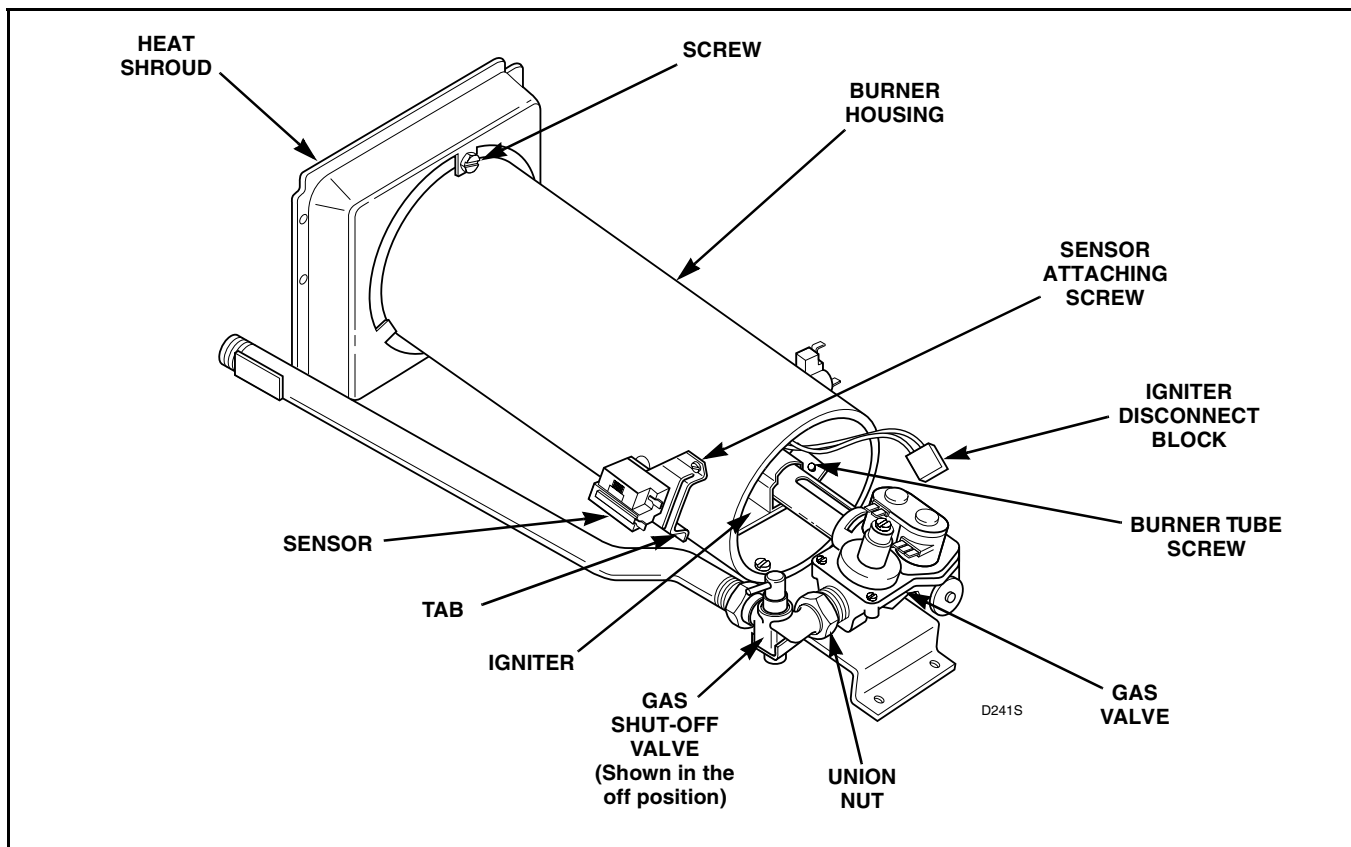
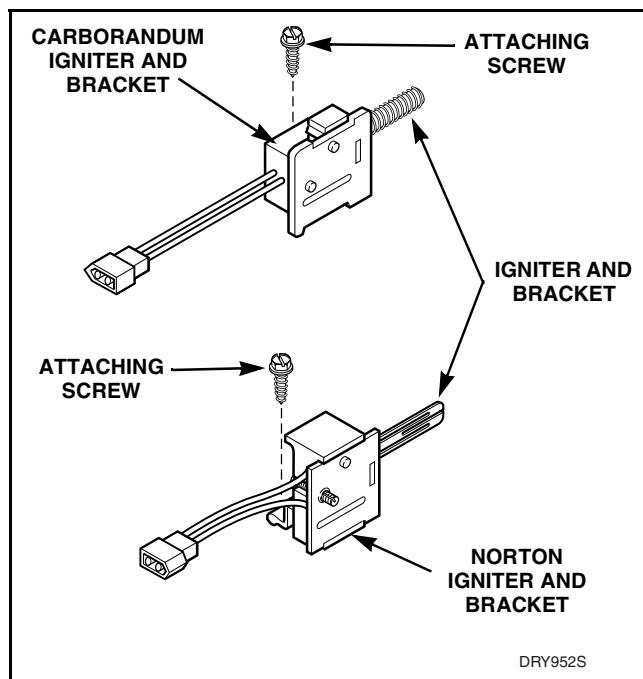

Figure 19
Figure 22
- (4) Close gas shut-off valve, disconnect igniter wires at disconnect blocks, sensor wires from sensor terminals, and wires from gas valve coils at the quick disconnect blocks. Refer to *Figure 19*.
- (5) Disconnect gas shut-off valve from gas valve at the union nut. Refer to *Figure 19*.
- (6) Remove three screws holding valve and mounting bracket to base. Refer to *Figure 19*.
- (7) Lift gas valve and mounting bracket from base. Refer to *Figure 19*.
- (2) Gently move burner tube toward rear of dryer to disengage tab from slot on left side of burner housing. Refer to *Figure 19*.
- (3) Carefully rotate burner tube and igniter **counterclockwise** so tab is at 8 o'clock position.
- (4) Move air shutter end of burner tube slightly to right and **CAREFULLY** remove burner tube and igniter assembly out through front of dryer.
- (5) Remove screw holding the igniter and bracket to the burner tube and remove igniter and bracket. Refer to *Figure 22*.
Refer to *Figure 22*.
1. Disconnect igniter wires at disconnect block. Refer to *Figure 19*.
### c. Sensor – Refer to *Figure 19*.
- (4) Remove wires from sensor terminals. Refer to *Figure 19*.
- (5) Remove screw holding sensor to burner housing. Refer to *Figure 19*.